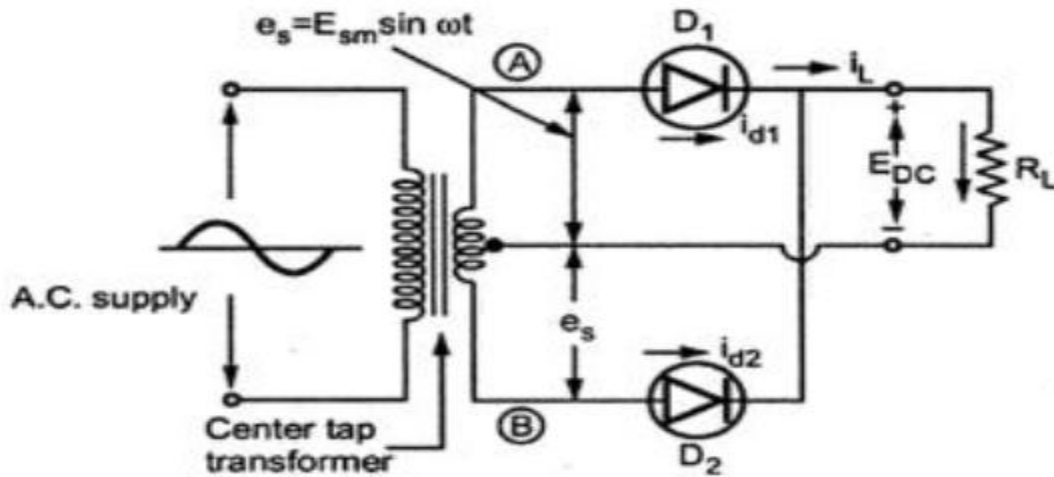

Fig. 1.24 Full wave Rectifier
- The full wave rectifier circuit is shown in the Fig. 1.24.